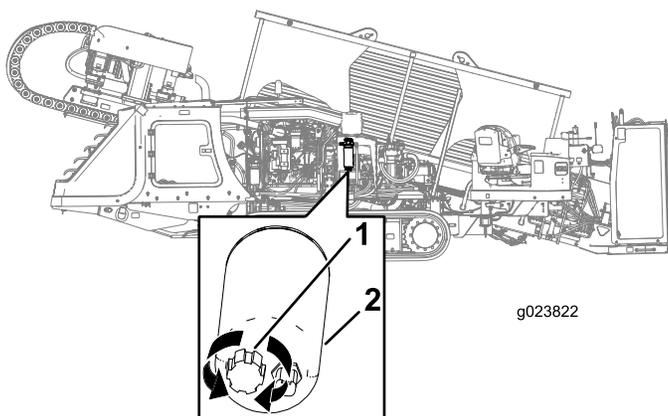

Figure 93
3. Align a drain pan under the primary fuel filter (Figure 93).
4. Rotate the drain valve at the bottom of the primary fuel filter 2 or 3 turns counterclockwise, and drain any water and sediment from the fuel filter (Figure 93).